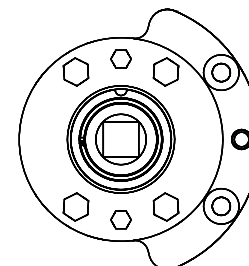

Figure 16
6. Align adapter plate hub with square hole in lever; keeping hub as tight as possible. (Figure 16)